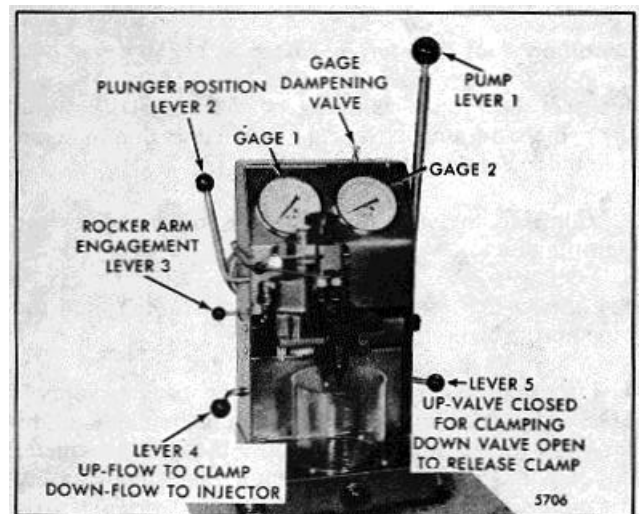

Fig. 13. Injector in Position for Testing with Tester J 23010
1. Refer to Fig. 13 and position the injector tester levers as follows:
1. Move lever 4 down and operate the pump lever 1 rapidly with smooth even strokes (40 strokes per minute) simulating the action of the tip functioning in the engine (Fig. 13).